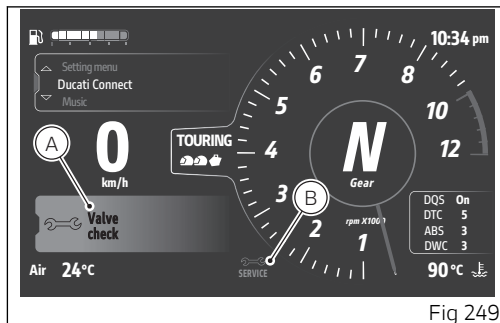
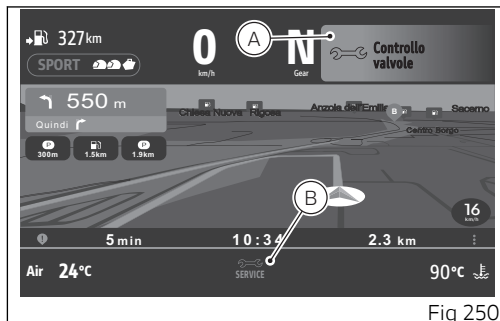

Fig 249
Fig 250
Service coupon deadline warnings are displayed in 2 modes: big (A) and small (B). These figures indicate the corresponding positions in the main page (Fig 249) and in the Ducati Connect page (Fig 250).